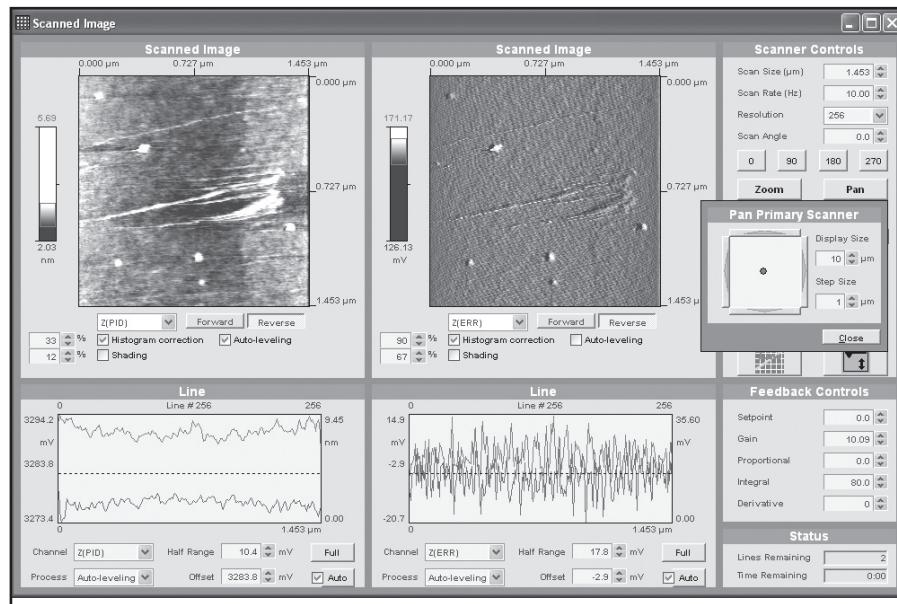

Figure 4.33: Pan Window Controls and Corresponding Scan
4. Pan - this feature allows to pan around the area . An increment of panning is defaulted to 1 micron in all directions. Put cursor on the red dot and move it around. Watch how corresponding image changes (Figure 4.33).